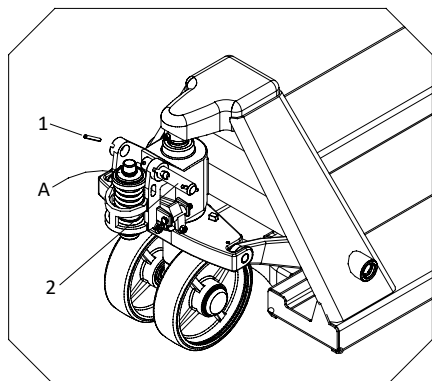

Fig. 1
1. Pull out spring pin 2 (Fig. 1)
5. Pass pin 1 through spring pin 2 and fix. (Fig. 1)